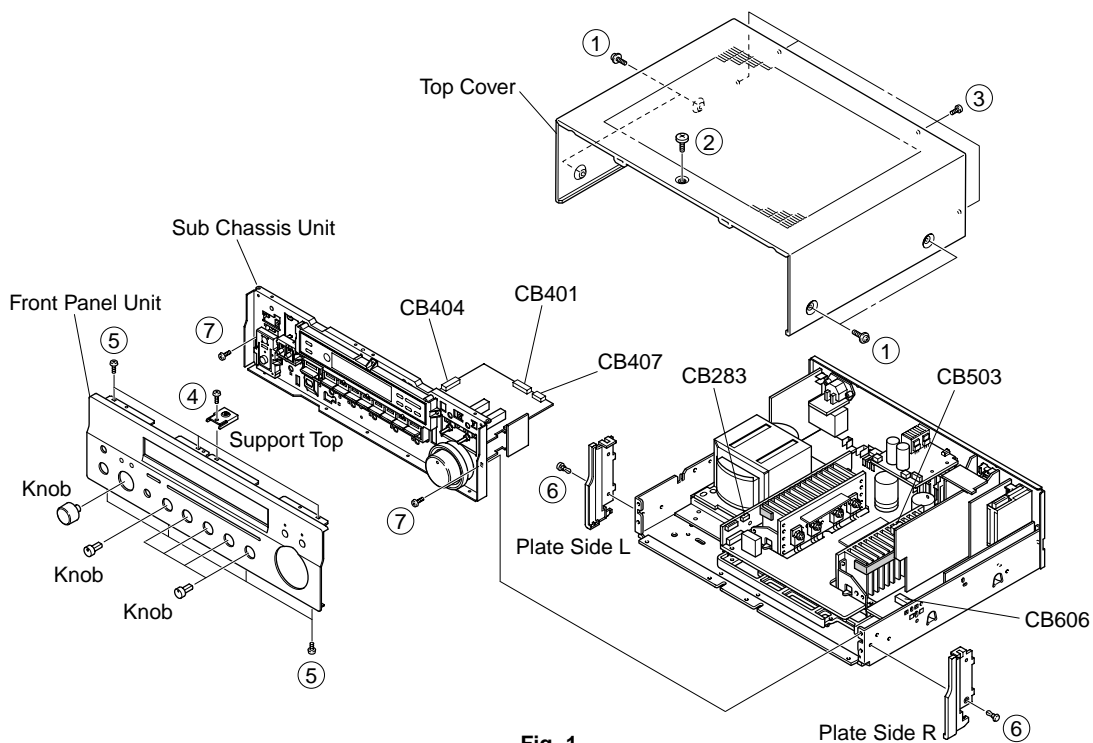

Fig. 1
- Remove 4 screws ( ① ), 1 screw ( ② ) and 4 screws ( ③ ). (Fig. 1)
- Slide the Top Cover rearward to remove it. (Fig. 1)
- Remove 1 screw ( ④ ) and then remove the Support Top. (Fig. 1)
- Remove 7 screws ( ⑤ ) and then remove the Front Panel Unit. (Fig. 1)
- Remove 2 push rivets ( ⑥ ) and then remove the Plate Side L/R. (Fig. 1)
- Remove 2 screws ( ⑦ ) and then slide the Sub Chassis Unit forward. (Fig. 1)
- Remove connectors CB283, CB401, CB404, CB407, CB503 and CB606 and then remove the Sub Chassis Unit. (Fig. 1)